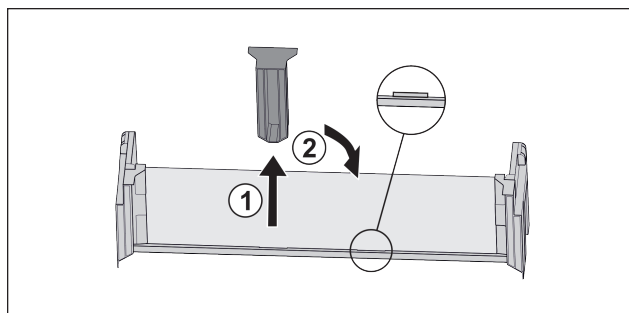

Fig. 28
- ▶ Pull off the middle holder Fig. 28 (1).
- ▶ Insert the middle holder in the second position Fig. 28 (2).